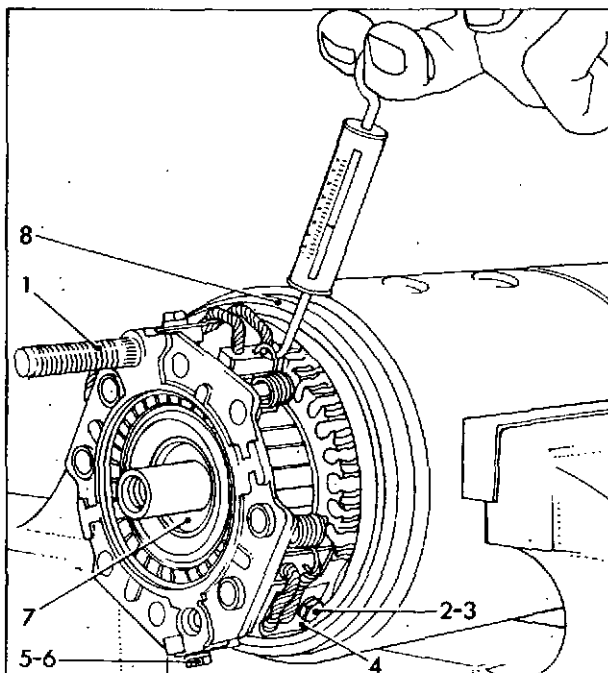

Fig. 26 Replacing brushgear
Assemble the brushgear assembly onto the commutator end of the yoke with the large terminal post (1) fig. 26 in line with the register pip on the yoke end.